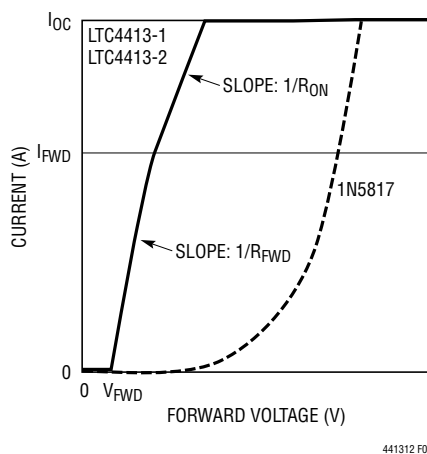

Figure 1. The LTC4413 vs the 1N5817
The LTC4413-1/LTC4413-2 are described with the aid of the Block Diagram. Operation begins when the power source at V_{INA} or V_{INB} rises above the undervoltage lockout (UVLO) voltage of 2.4V and the corresponding control pin ENBA or ENBB is low. If only the voltage at the V_{INA} pin is present, the internal power source (V_{DD}) is supplied from the V_{INA} pin. The amplifier (A) pulls a current proportional to the difference between V_{INA} and V_{OUTA} from the gate (V_{GATEA}) of the internal PFET (PA), driving this gate voltage below V_{INA} . This turns on PA. As V_{OUTA} pulls up to a forward voltage drop (V_{FWD}) of 15mV below V_{INA} , the LTC4413 regulates V_{GATEA} to maintain the small forward voltage drop. The system is now in forward regulation and the load at V_{OUTA} is powered from the supply at V_{INA} . As the load current varies, V_{GATEA} is controlled to maintain V_{FWD} until the load current exceeds the transistor's (PA) ability to deliver the current as V_{GATEA} approaches GND. At this point, the PFET behaves as a fixed resistor, R_{ON} , whereby the forward voltage increases slightly with increased load current. As the magnitude of I_{OUT} increases further, (such that $I_{LOAD} > I_{OC}$) the LTC4413-1/LTC4413-2 fixes the load current to the constant value I_{OC} to protect the device. The characteristics for parameters R_{FWD} , R_{ON} , V_{FWD} and I_{OC} are specified with the aid of Figure 1, illustrating the LTC4413-1/LTC4413-2 forward voltage drop versus that of a Schottky.